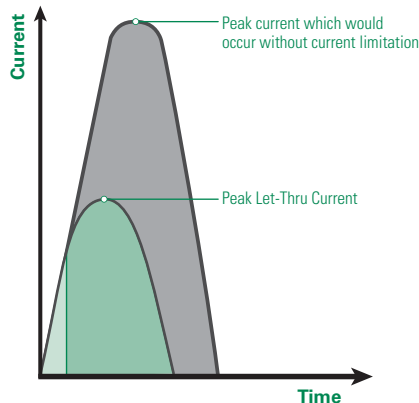

Figure 14 – Peak Let-through Current
**Peak Let-through Current** (See Figure 14) – The maximum instantaneous current that passes through an overcurrent protective device during its total clearing time when the available current is within its current-limiting range.